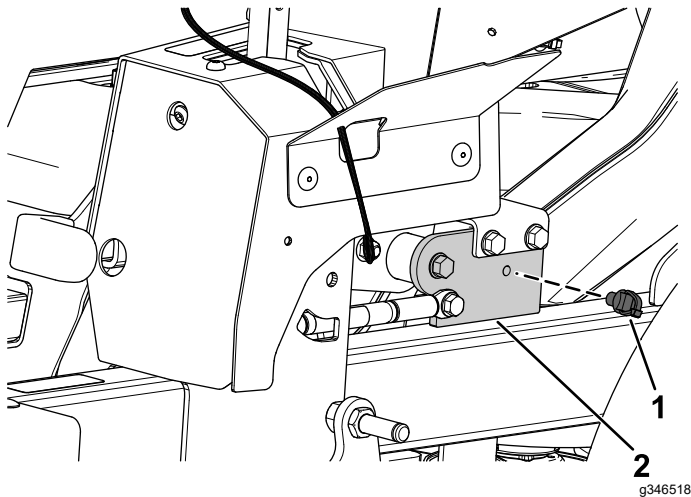

Figure 12
1. Install the front push-mount fastener into the parking-brake lever bracket (Figure 12).